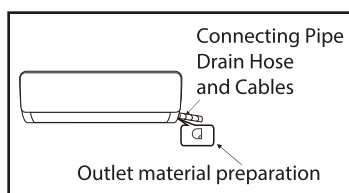

Fig 1
- Depending on the position of the unit, the piping may be routed sideways from the left or the right ( Fig 1 ), or vertically from the back ( Fig 2 )(depending on the pipe length of the indoor unit). In the case of sideways routing, cut off the outlet cutting stock of the opposite side.